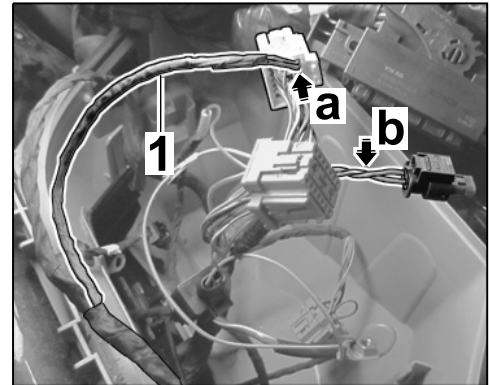

Figure 28
- 4.6.4 Insert OR/BN line from the engine noise pulse sender wire harness \Rightarrow *Figure 28-1* into the white connector of chamber 13 \Rightarrow *Figure 28-a*.
Twist CAN lines \Rightarrow *Figure 28-b* manually.